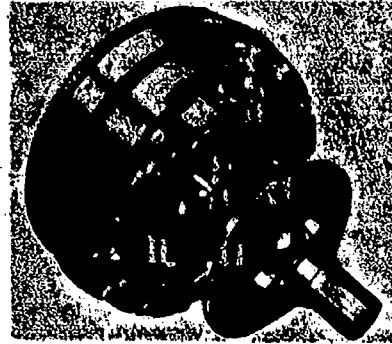

Fig 2-46. Engine clutch lubrication points.
- (3) Lubrication. Engineer equipment clutches will generally require some type of lubrication. This lubrication consists of applying grease to either external or internal grease fittings (fig 2-46). The externally located fittings pose no particular problem, however, the internal fittings are located on the clutch itself. To lubricate these fittings, the clutch compartment cover must be removed and you must crank the engine over to lubricate all the fittings. Care must be taken to lubricate every fitting on the clutch assembly. Do not overlubricate these fittings! Excessive lubrication may cause a slipping or grabbing clutch action. Clutch compartments are equipped with drain plugs for removing excessive oil that finds its way into the compartment from either the engine or the transmission. If oil is leaking into the clutch compartment, it indicates worn or damaged engine or transmission oil seals and you should note this on your Operational Record and inform your equipment foreman.
Remove operator's platform and engine clutch cover. Crank engine to reach each fitting. Lubricate every 50 service hours. NOTE: The following numbers refer to figure 2-46.